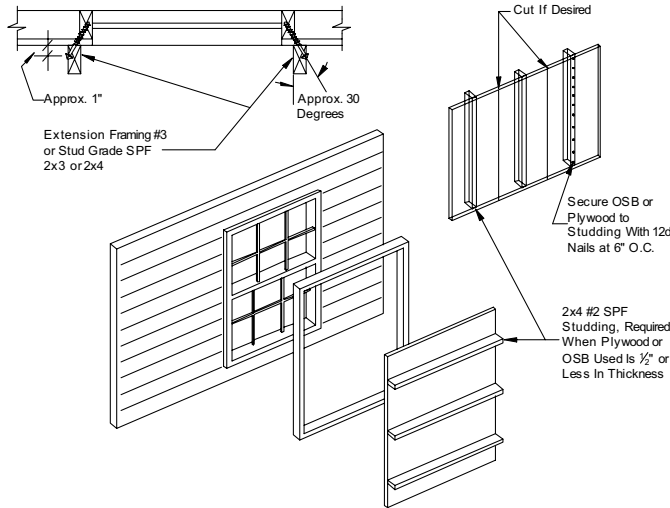

Figure 97. Wind protection shutter construction
If desired, prepare temporary protective window covers for use during severe wind storms and hurricanes according to **Figure 97**, **Table 27**, and the procedure below.
- 2.** Assemble shutter panels as shown in **Figure 97**.